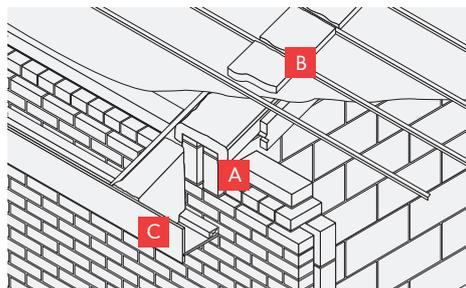

Fig. 35 – Separating wall with fire stop
- 2 Before felting and battening, ensure fire stopping material (A) is laid on top of wall with edges tucked between wall faces and adjoining rafters.
- 3 After felting and battening, ensure lengths of fire stopping material (B) are laid between battens as tiling proceeds or fixed by spot sticking in place before tiling.
- 4 Check eaves void is filled with fire stopping material (C) to achieve a tight fit.
- 5 Fire resistant material must be securely fixed without support from the soffit board (Fig. 35).